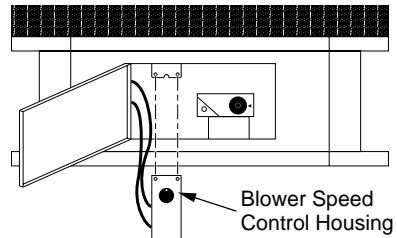

Figure 17 - Installing Blower Control Housing
- Route ends of 3-wire power cord up from the lower control compartment through the plastic bushing, then up to the upper cavity of stove (see Figure 17, page 13).
13. Install plastic control knob onto output shaft of speed control housing (see Figure 17). Place speed control housing just inside control compartment door in front of stove (see Figure 17).